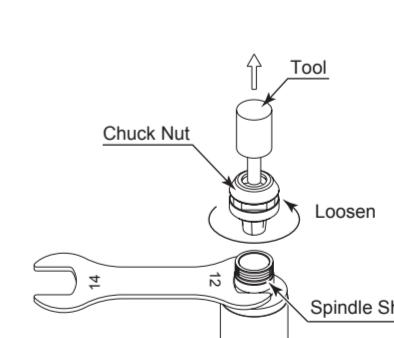

Fig. 9
- Remove the tool according to the section "4. CHANGING THE TOOL" procedure above and remove chuck nut assembly. (Fig. 9)